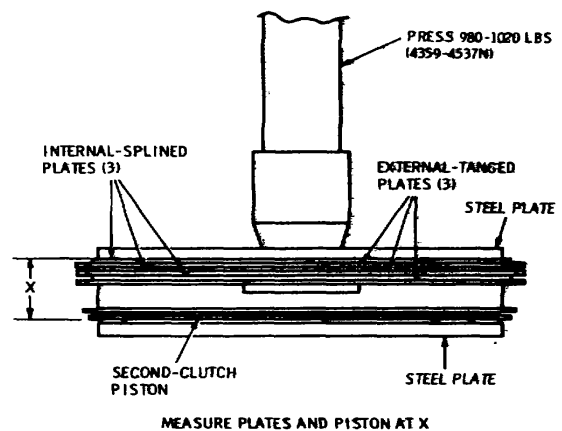
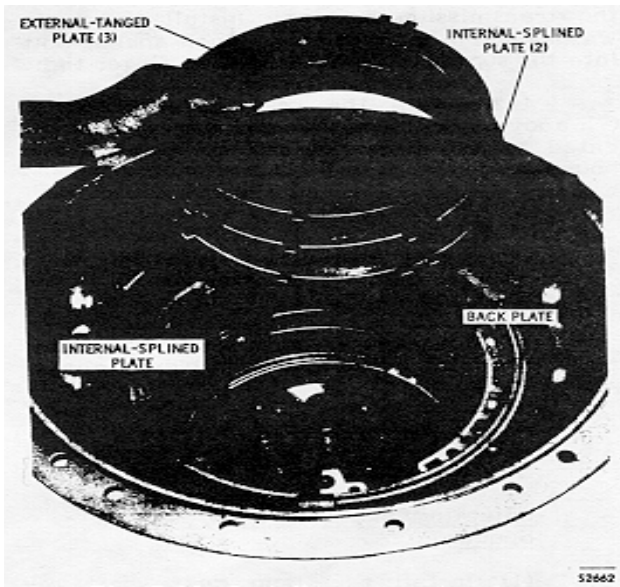

Fig. 7-9. Checking second clutch plate running clearance
Fig. 7-10. Installing second clutch plates
(2) Support the second clutch piston, convex (front) side downward on a flat surface of a press bed. Stack three external-tanged clutch plates and three internal-splined clutch plates, alternately, onto the apply face of piston (Fig. 7-9).
(3) Place a flat steel plate upon the stacked plates. With a press, apply 980 to 1020 pounds (4359 to 4537 N) force against the plate.
(4) While the force is applied, measure the combined thickness of the piston and six clutch plates, designated "X" on figure 7-9.
(5) Note the identification number (1 or 2) stamped on backplate 25 (A, foldout 7). If the identification number is 2, dimension "X" must be within 1.5165 to 1.5425 inches (38.519-39.180 mm). If the identification number is 1, dimension "X" must be within 1.4905-1.5165 inches (37.859-38.519 mm).
(6) If dimension "X" is not within limits, replace plates 23 (A, foldout 7) and/or 24 with new plates as required to obtain the required dimension "X". Refer to wear limits, Section 8, for clutch plate dimensions.
(7) If new clutch plates are used, repeat steps (2) through (6), above.
(8) Be sure the inner and outer lip type sealrings are properly installed into the piston. Install the second clutch piston into the rear bore of the center support assembly.
(9) Install the second clutch backplate (Fig. 7-10). Note the location of the single tang in the single slot in the transmission housing.
(10) Beginning with an internal-splined plate, alternately install three internal-splined and three external-tanged clutch plates (Fig. 7-10). The single tangs of the clutch plates must align with the single tang of the backplate.